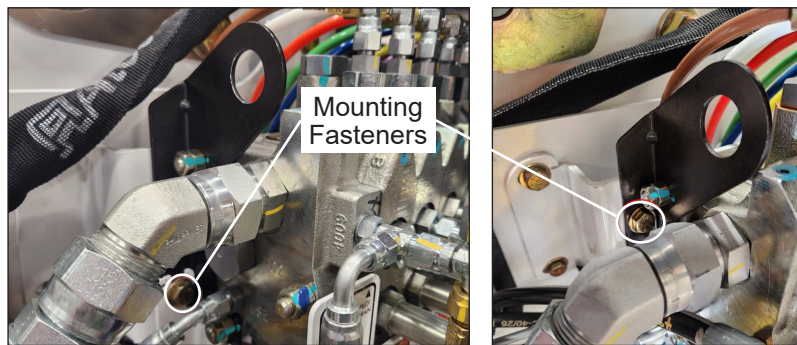

Figure 2 — Lower Control Valve Mounting Fasteners
2. Open or remove the turntable cover from the right side of the turntable to access the lower control valve (refer to Figure 2). Look for oil leaks between every valve section.
5. Loosen, but do not remove, the mounting fasteners that secure the lower control valve brackets to the vehicle structure (refer to Figure 2).